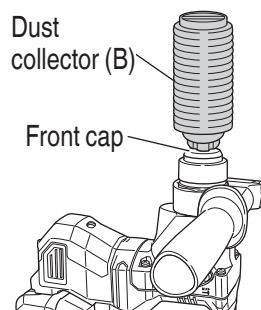

Fig. 27
When using dust collector (B), insert dust collector (B) from the tip of the bit by aligning it to the groove on the grip. (**Fig. 27**).